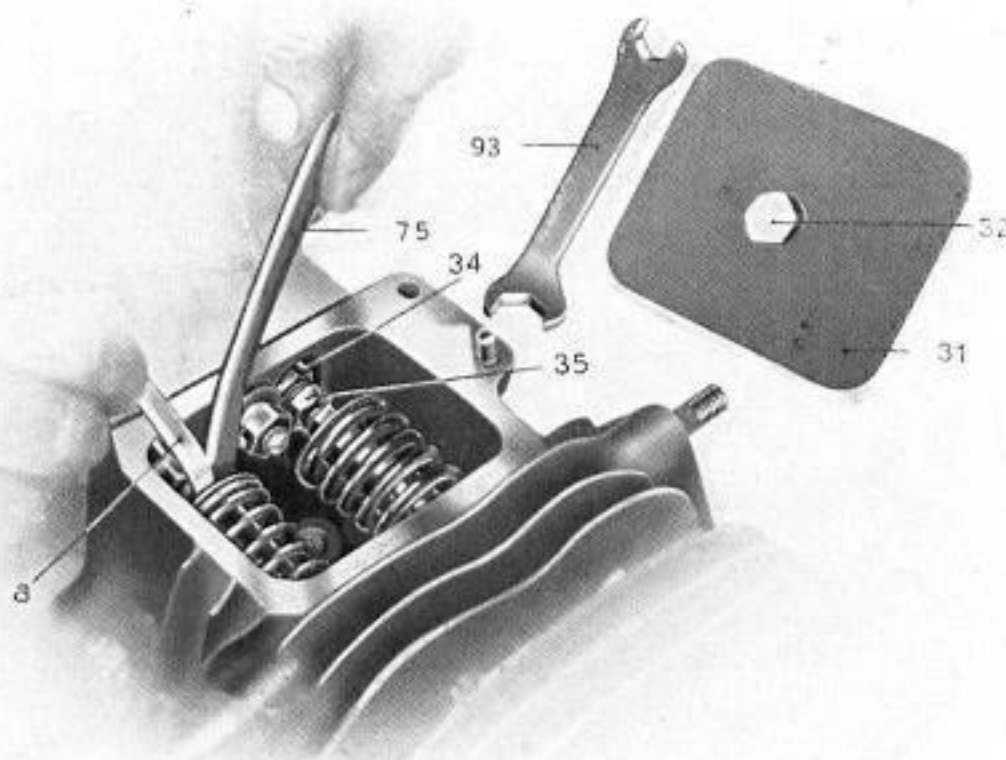

Fig. 11 Adjustment of the valve clearance of the touring machine
Also the valve clearance between the valve stem 36, and the tappet screw 35 or the thrust screw 3 (figs. 11, 12 and 20) which should amount to about 0,004" (0.1 mm) with the **cold** engine, must be checked from time to time. For this purpose it is best to use a narrow strip of note paper which corresponds approximately to the clearance. The adjustment of the valve clearance of both machines is described below; as said before, it must not be done except with the **cold engine**.
Touring machine: First the cover 31 to the valve chamber is taken off by unscrewing the head screw 32 connected with same (figs. 11 and 20). Before adjusting convince yourself that the tappet 35 seats on the circular
part of the cam and that it does not by any chance touch the ascending or descending cam curve, which is easily determined by turning the crankshaft slightly forwards or backwards by means of the kickstarter. In doing so the tappet 35 must neither rise nor sink. The tappet is held firmly in position by means of the key 75 supplied with the tools and the lock nut 34 located on the tappet is unscrewed with the second key 93. Now screw 35 on the tappet can be adjusted in such a way that the paper strip A can be introduced between valve stem and tappet screw 35 without difficulty. If the adjustment is correct, the lock nut 34 is tightened again, whilst the tappet screw 35 is held fast with the key 93. After this the valve chamber must be closed again by the cover 31 (fig. 11).